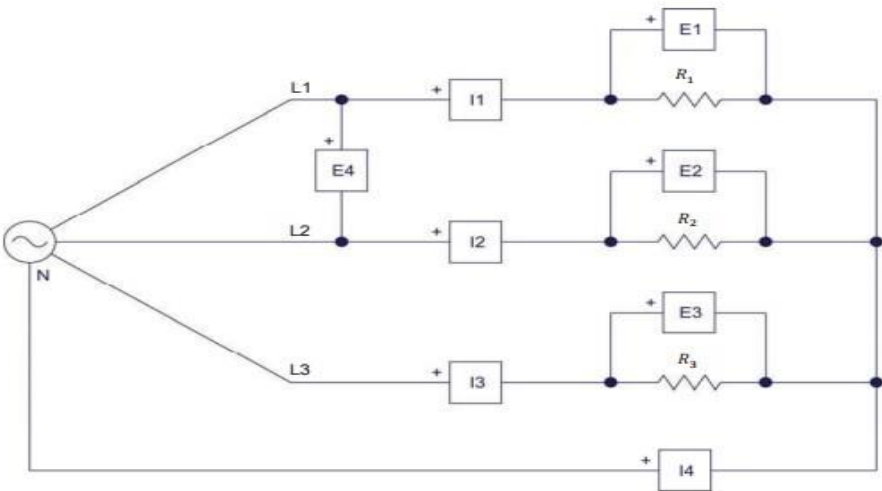

Figure 6- 5:Wye-connected, three-phase circuit.
1. Set up the wye - connected, resistive, three-phase circuit shown in Figure 6.